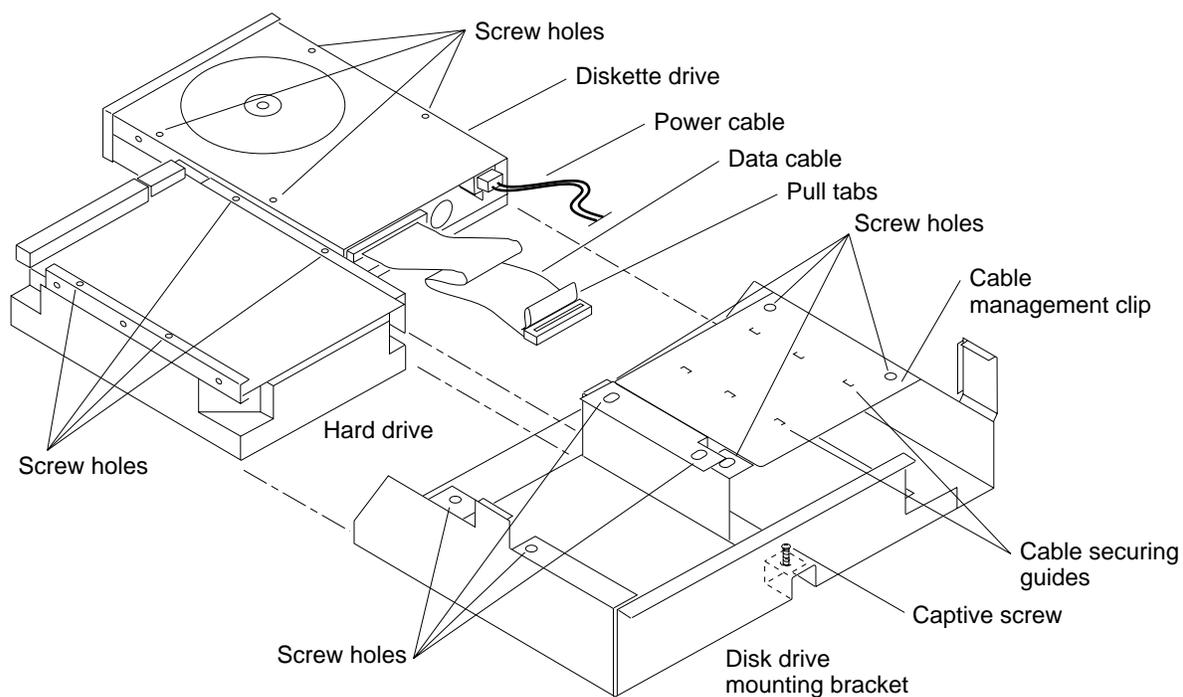

Figure 4-8 Disk Drive Mounting Bracket
4. **Detach the cables from the cable securing guides on the cable management clip over the diskette drive (see Figure 4-8).**
8. **Back off the captive Phillips head screw in the center rear of the bracket (closest to the power supply). See Figures 4-8 and 4-9.**
5. **Secure the cables to the cable management clip over the diskette drive (see Figure 4-8 for the location of the clip and the cable securing guides).**
**4. Remove the four Phillips head screws securing the hard drive to the bracket (see Figure 4-8).**
The diskette drive is in the unit top at the front right side (see Figure 4-8). A 34-pin data cable and a 4-pin power cable connect to the rear of the drive. Four Phillips head screws attach the diskette drive to the mounting bracket. The drive and the mounting bracket (described above) are secured to the chassis by a single captive Phillips head screw at the center rear of the bracket. See Figures 4-8 and 4-9.
(See Figure 4-8.)
3. Slide the diskette drive out of the bracket as shown in Figure 4-8 and place it on an antistatic mat.